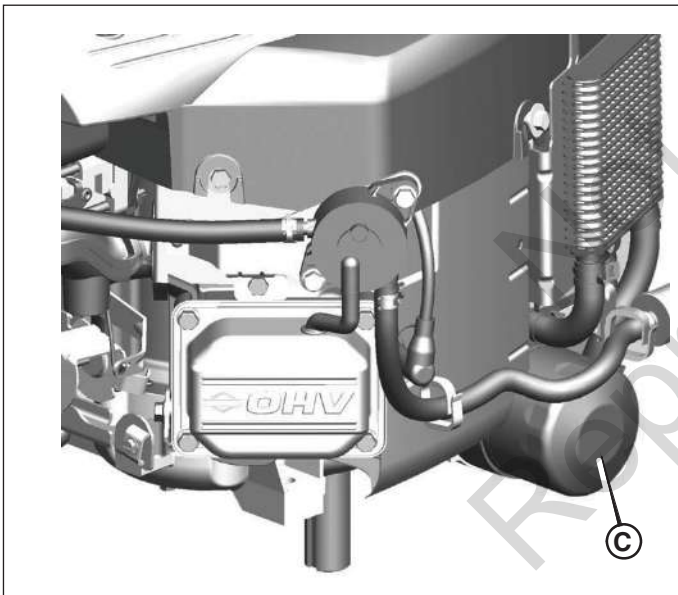

Figure 14
2. Remove the oil filter (**C**, Figure 14) and dispose of properly.